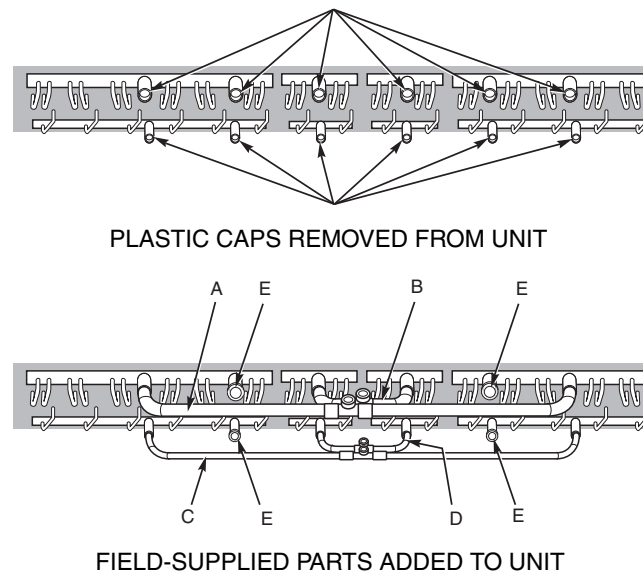

Fig. 13 — 09DK044 Unit with 74/26% Circuiting
1. Remove all plastic caps. Refer to Fig. 13.
2. Attach following parts as shown in Fig. 13. Perform phos-copper brazing on all field-made connections while protecting adjacent joints from heat.
- a. Construct the 74% gas tubing assembly (Item A), consisting of the following parts, and braze it into gas headers as shown in Fig. 13, Item A:
- b. Construct the 26% gas tubing assembly (Item B), consisting of the following parts, and braze it into the gas headers as shown in Fig. 13, Item B:
- c. Construct the 74% liquid tubing assembly (Item C), consisting of the following parts, and braze it into liquid headers as shown in Fig. 13, Item C:
- d. Construct the 26% liquid tube assembly (Item D), consisting of the following parts, and braze it into the gas headers as shown in Fig. 13, Item D:
- e. Plug the two open 1¹/₈-in. diameter stub tubes on the gas headers and the two open 5/8-in. diameter stub tubes on the liquid headers as shown in Fig. 13, Item E. Parts required: